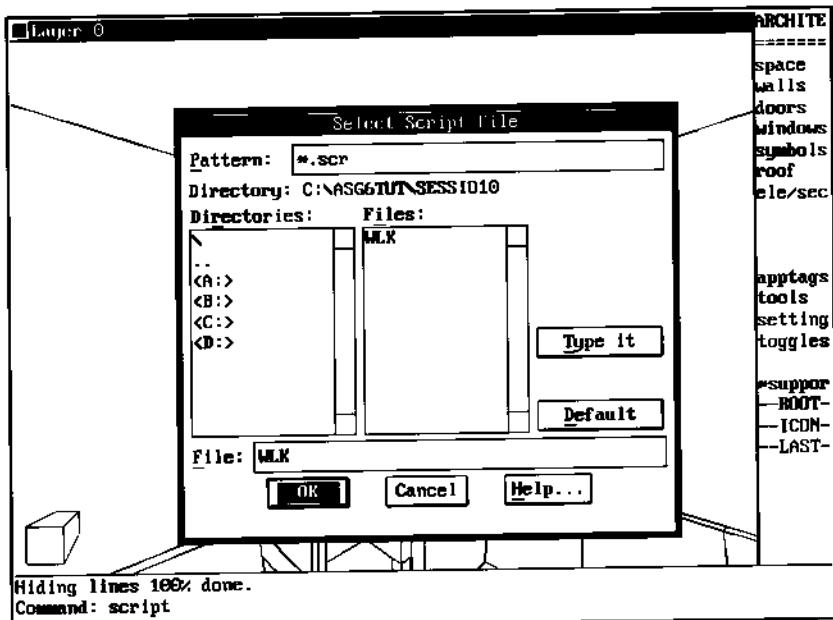

Figure 11.
6. The slide show as shown in Figure 11 can be viewed using AutoCAD's Script command and entering the name WLK.